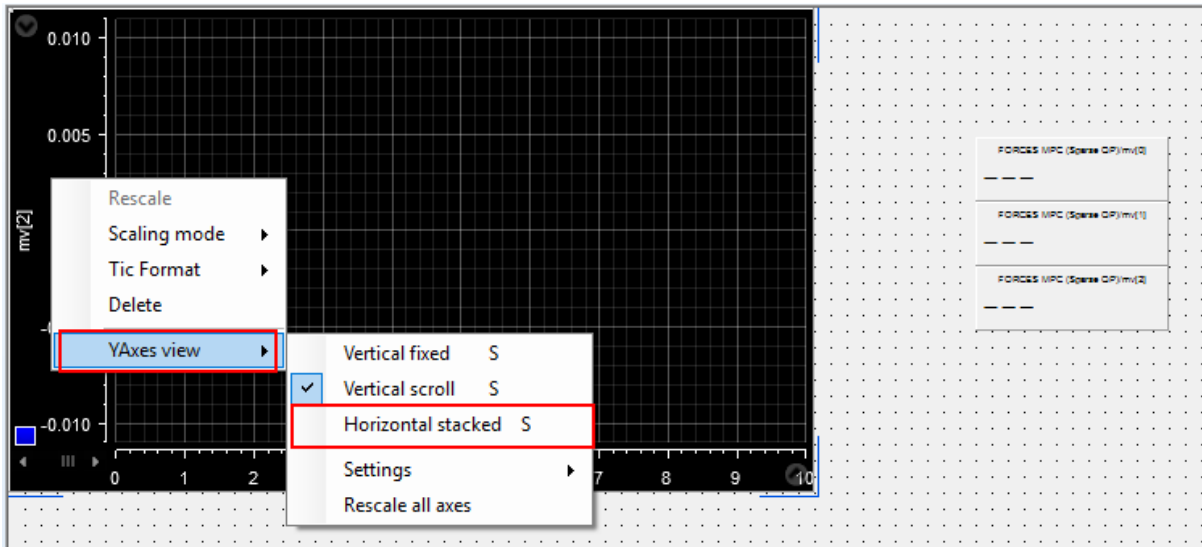

Figure 5.18: Select to show all the signals on the same plot with their own Y-axes
- 14) To see all the plots concurrently right-click on the left of the Y-axis and select YAxes-view> Horizontal stacked (see Figure 5.18).